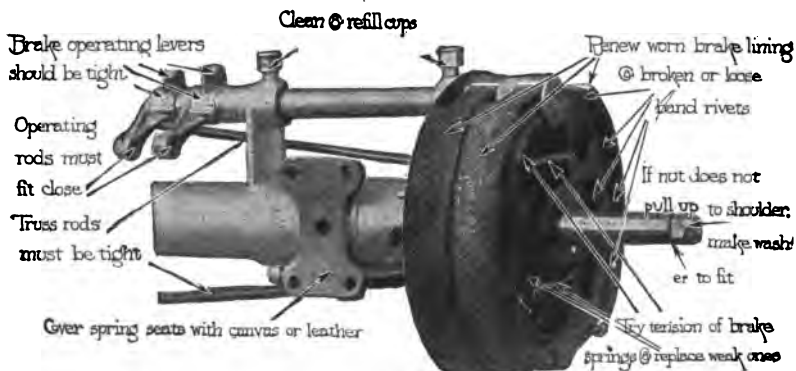

Fig. 50. Brake Troubles Illustrated
**Brake Linings.** The brakes now are usually placed side by side within the drum attached to the wheel, as shown in Fig. 50. This